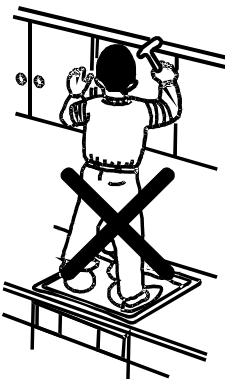

Fig. 8
- * In order to avoid dangerous situation arising from breakage of glass, do not apply heavy weight or strong impact on glass top plate. (Fig. 8)